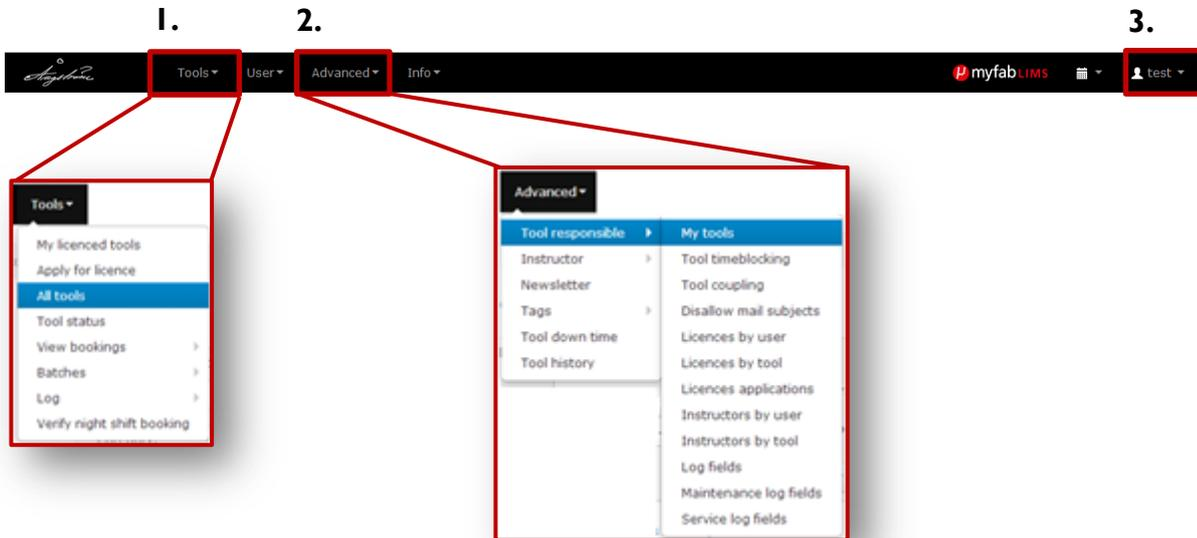

Fig. 1
When logged in, you always see the navigation bar shown in Fig. 1. To get to the tool list, go to *Tools / All tools* (1). To edit your tools, go to *Advanced / Tool responsible / My tools* (2).